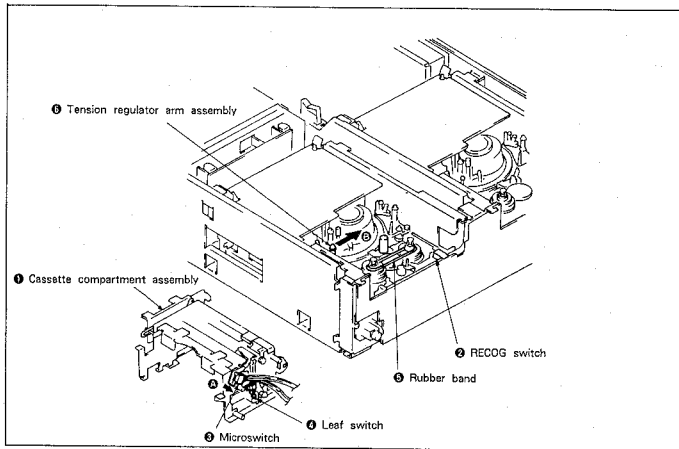

Fig. 7-1.
1. Loading (See Fig. 7-1.)
- 2) Remove the cassette compartment assembly ① according to Section 2. DISASSEMBLY 2-15. (Do not remove connectors.)
- 4) Apply tape to the RECOG switch ② to keep the pin pressed down.
- 5) Push microswitch ③ once in the direction of arrow ④ and release. (See Fig. 7-1.)
- 6) Turn on the leaf switch ⑤. (See Fig. 7-1.)
2. Putting into playback state (See Fig. 7-1.)
3. Eject (See Fig. 7-1.)